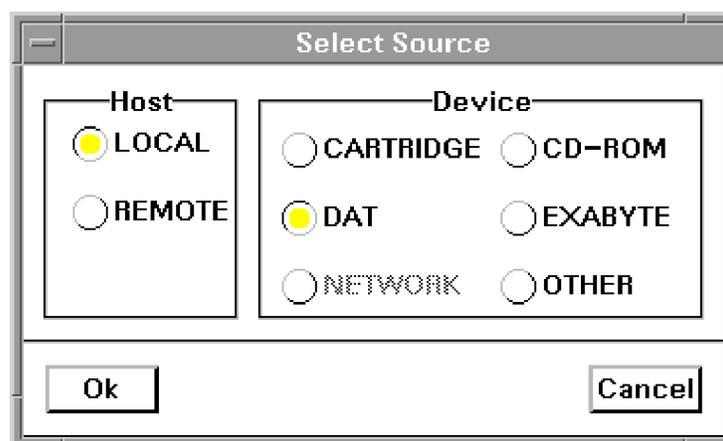

Figure 14. Select Source Window
Used to display the currently selected installation media. Click on the `Select Source` button to open the `Select Source` window (Figure 14). This window allows the user to select the installation source device. The device selection defaults to the `DAT` drive on the local machine (the `LOCAL` option in the `Host` panel and the `DAT` option in the `Device` panel).
- STEP 1: Select the installation device.** Click on the `Select Source` button in the `Source` panel to open the `Select Source` window (Figure 14). Select the device to use as the installation source device. Select `NETWORK` if you are installing a segment from the segment installation server. Refer to Section 6.3.2, *Segment Installation Server Option*, for information about loading segments on the segment installation server.
- STEP 2: Select the installation device.** Click on the `Select Source` button in the `Source` panel to open the `Select Source` window (Figure 14). Select the installation source device and then click on the `OK` button.